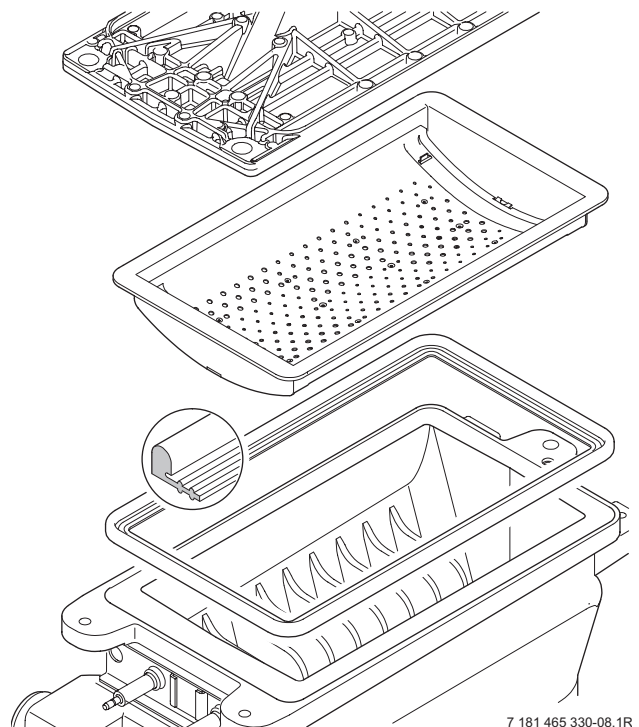

Fig. 55
- Remove burner and clean components. Do not use a wire brush. Refer to fig. 55.